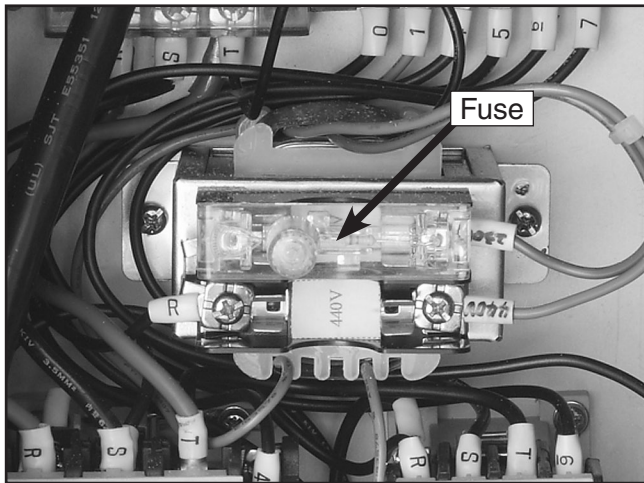

Figure 8. Fuse installed at the 220V location.
3. At the voltage transformer, pull the fuse that is in the “220” slot and push it into the “440” slot (see **Figure 8**).